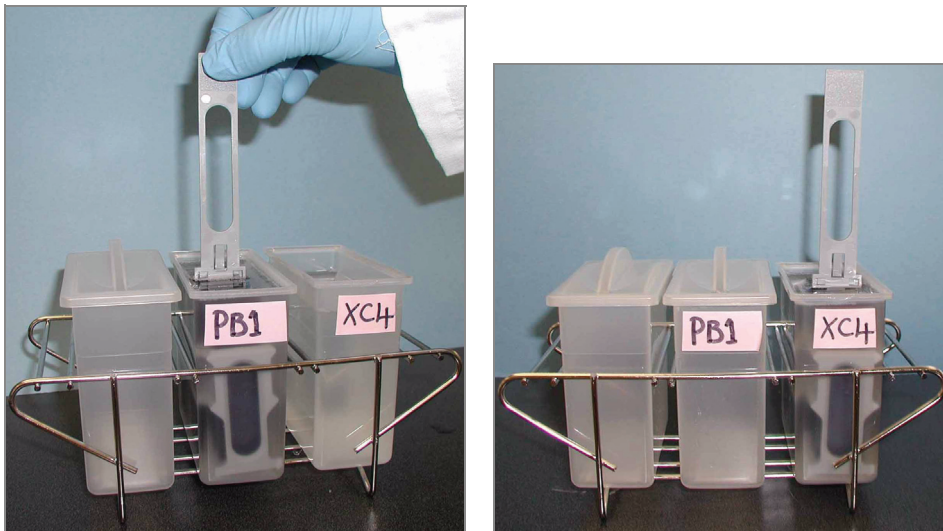

Figure 194 Moving BeadChips from PB1 to XC4
13. Remove the staining rack from the dish containing PB1 and place it directly into the wash dish containing XC4 (Figure 194). The barcode labels on the BeadChips must **face away** from you, while the locking arms on the handle **face towards** you, for proper handling and coating.